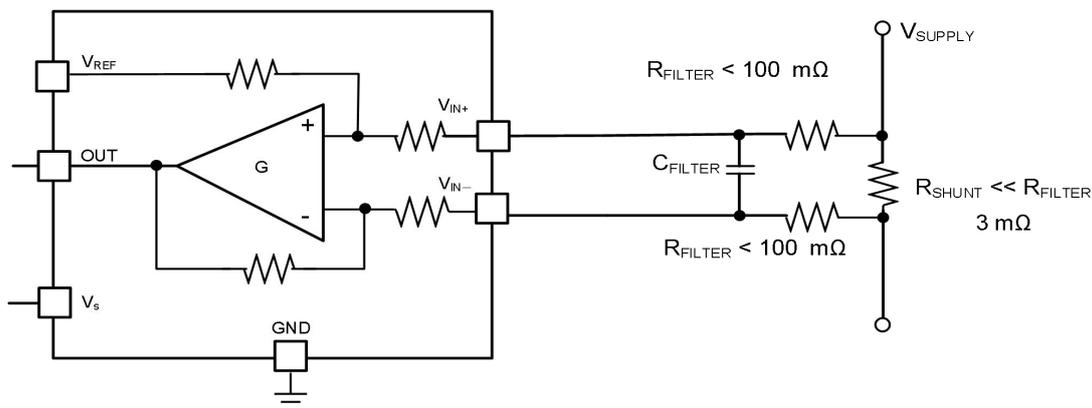

Figure 5. Input filter
One possible location for filtering is at the output of the DIO2213 series, in which case the output impedance of the internal buffer increases. Adding a filter at the input pins of the DIO2213 series is a better option although the input impedance makes the input filtering more complicated as shown in Figure 5. To minimize the initial shift in gain and effects of tolerance, use the lowest resistor values. Equation (1) tells the effect on initial gain.